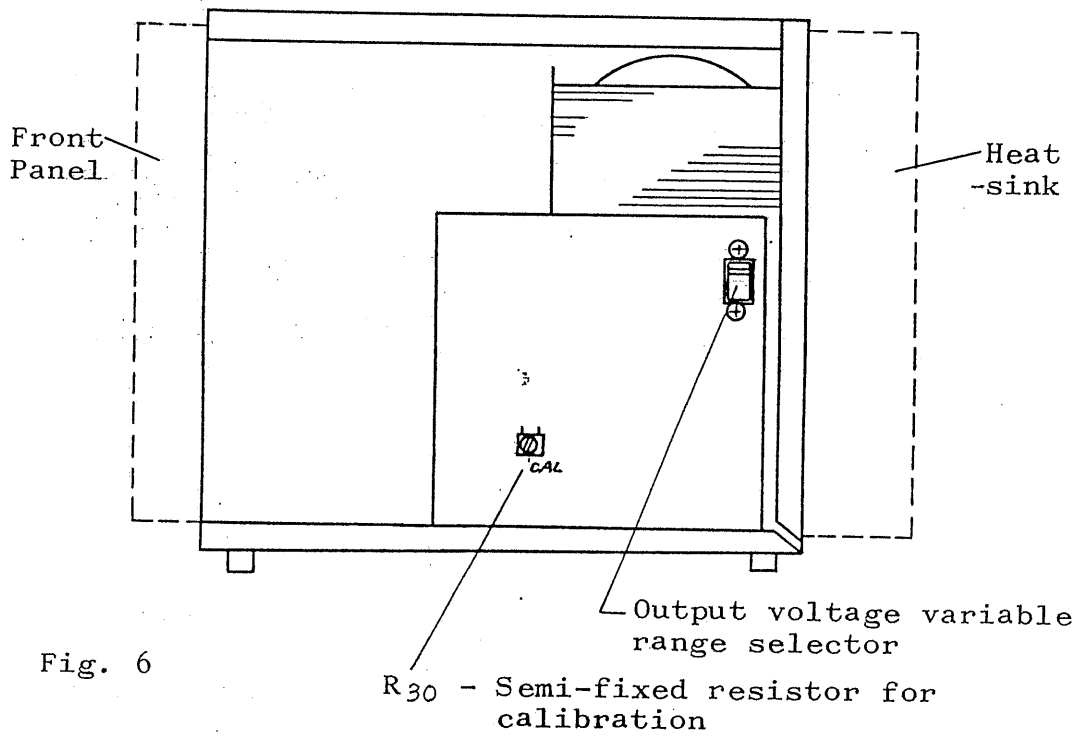

Fig. 6
- b. Turn the voltage controls fully clockwise, switch the voltage control selector to positions "I" and "II" alternately, and adjust, as below, the semi-fixed resistors with respect to the lower output voltage. If the meter pointer deflects over the scale, appropriately adjust the output voltage with calibration resistor R₃₀. For adjusting parts, see Fig. 6.